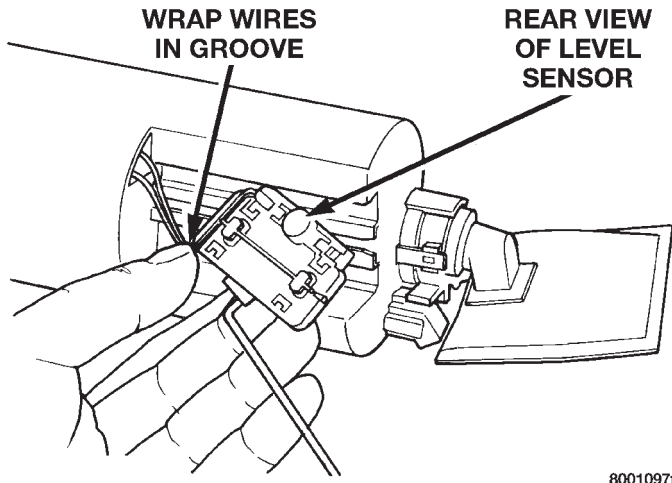

Fig. 24 Groove in Back Side of Level Sensor
(2) Wrap wires into groove in back of level sensor (Fig. 24).